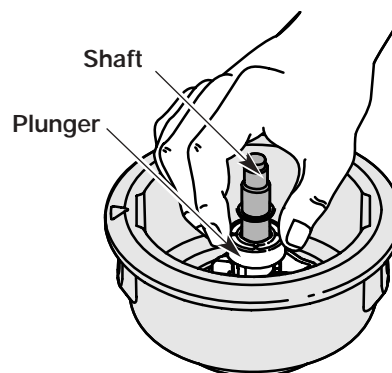

Fig. 24
5. Clean the shaft and the inner surface of the outer spool. To clean the shaft underneath the plunger, press down on the plunger (Fig. 24). Remove any dirt or debris from the shaft.